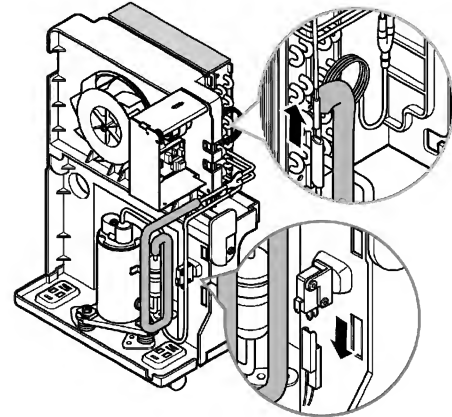

Figure 16
2. Remove the screw which fastens the humidity sensor. (See Figure 16)
3. Remove the thermistor from the holder. (See Figure 16)
4. Disconnect the switch wires from the micro switch assembly. (See Figure 16)